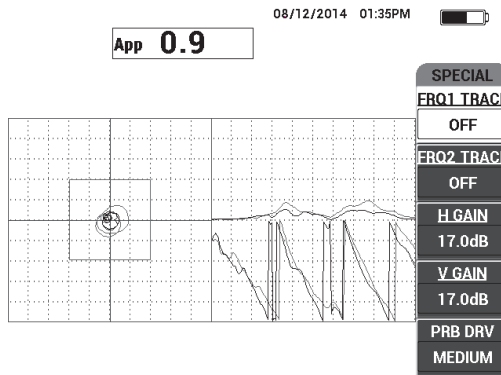

Figure 6-58 The background reference signal
3. Hold the probe still on a good part of the standard, and then press and hold the REF SAVE key () to save the background reference signal (see Figure 6-58 on page 172).